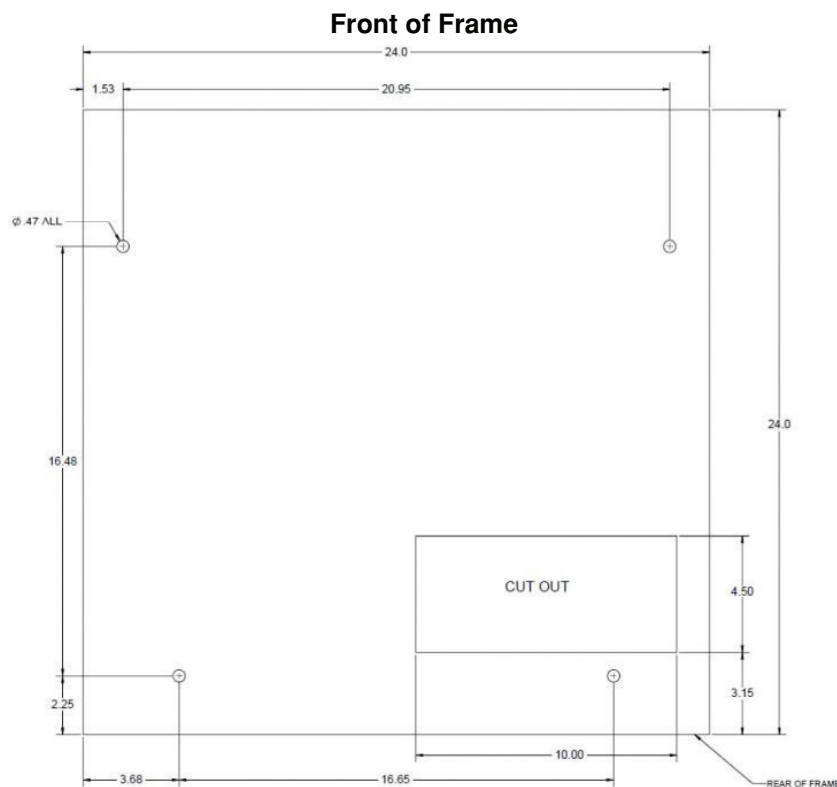

Figure 8
5.1.4.2 Perform the tile cut as shown in Figure 8.